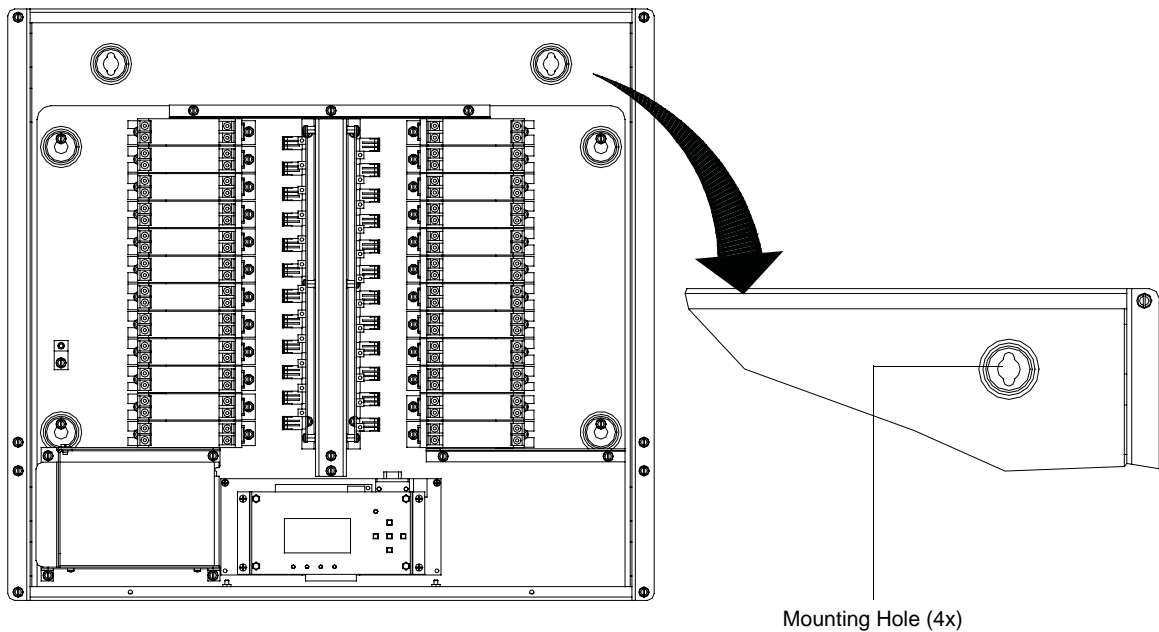

Figure 3: Panel Mounting Holes
Step 2. Mount panel utilizing pre-punched mounting holes, as indicated in **Figure 3**, as follows: